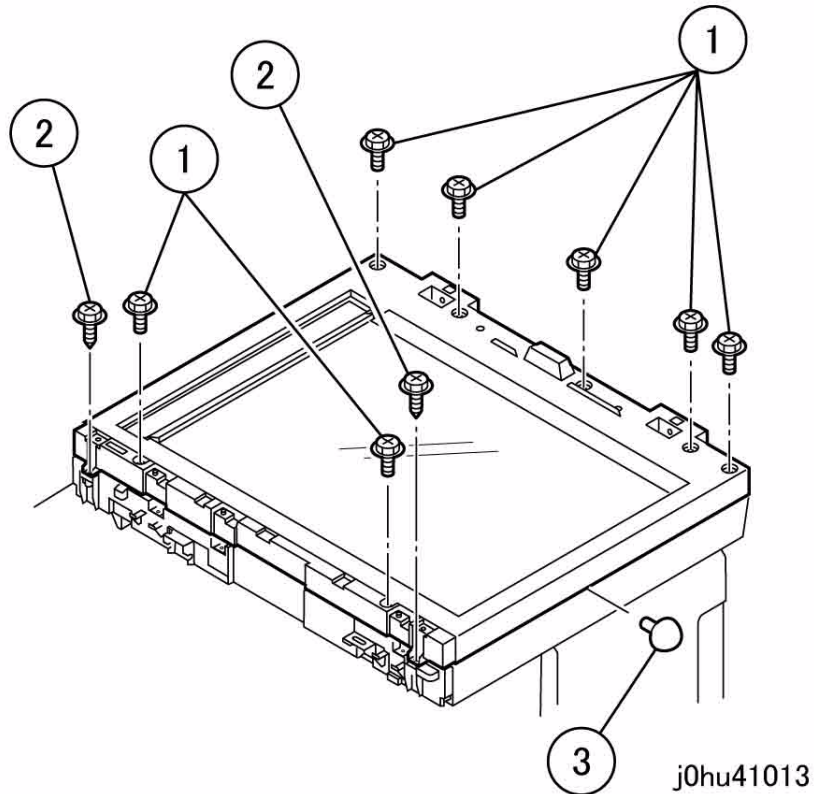

Figure 1 Remove IIT Upper Cover Screws and Cap
2. Remove the screws that secure the IIT Upper Cover (Figure 1).